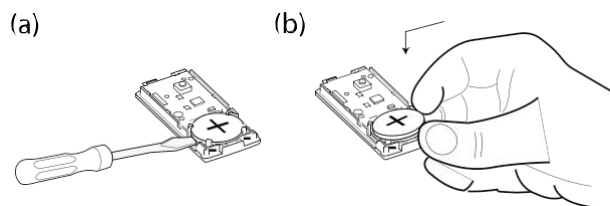

Figure 9: Battery removal and insertion
2. Wedge a flat head screwdriver under the battery. See Figure 9 (a).
Note: When you insert the battery, the (+) symbol should be visible and not the (-) symbol. See Figure 9 (b).